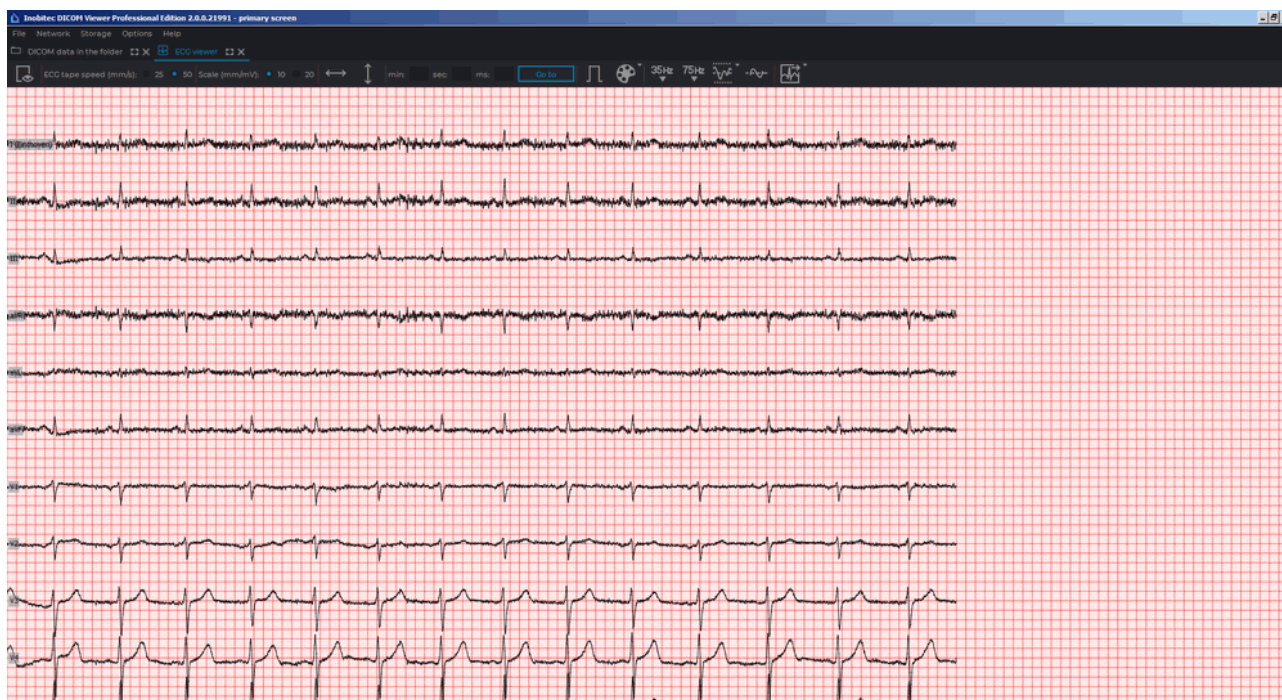

Figure 10.1: ECG view window
5. Right-click the mouse to call the context menu for the series icon and select one of the items in the **ECG Viewer** section. The ECG will open in a new tab in the current window (Fig. 10.1).